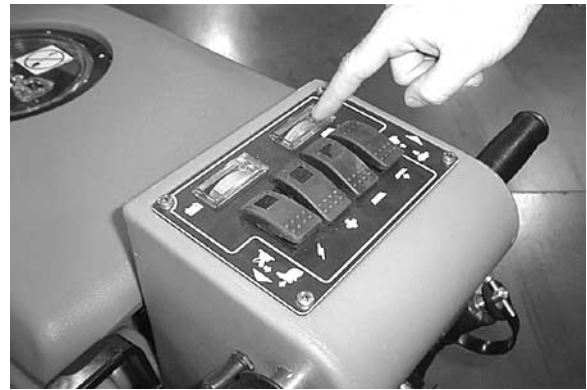

FIG. 15
9. Once machine begins to move, check the needle position of the brush pressure meter. Depress brush pressure switch to adjust brush pressure. Never operate machine in the red zone (Figure 15).